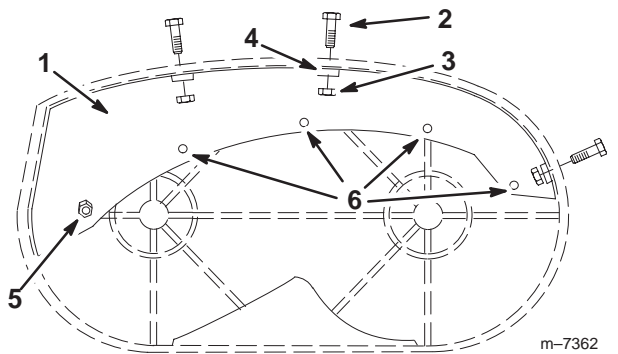

Figure 3
6. Install three bolts (5/16 x 5/8 inch) and three flange nuts (5/16 inch) through the side of the deck at each tab as shown in Figure 3. Install the fasteners with the nuts on the inside.
7. Check that the holes in the upper baffle (Fig. 3) line up with existing holes in the deck. If there are not pre-existing holes, the deck will need to be modified to accommodate the mulching kit. Proceed to the next section. If the deck has pre-existing holes skip ahead to the *Mounting the Baffle* section on page 4.